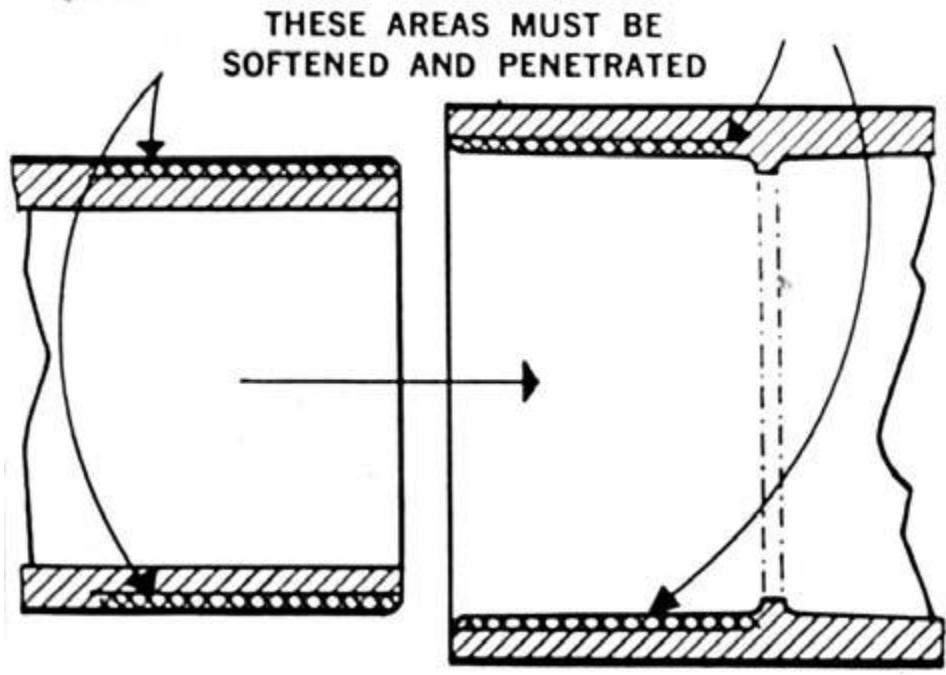

Figure 1: Areas of Pipe and Fitting to be Softened (Dissolved) and Penetrated
2. Penetration and dissolving can be achieved by the solvent cement itself, a suitable primer, or by the use of both primer and solvent cement. A suitable primer will penetrate and dissolve the plastic more quickly than solvent cement alone. In cold weather, more time and additional applications are required (see Figure 1).